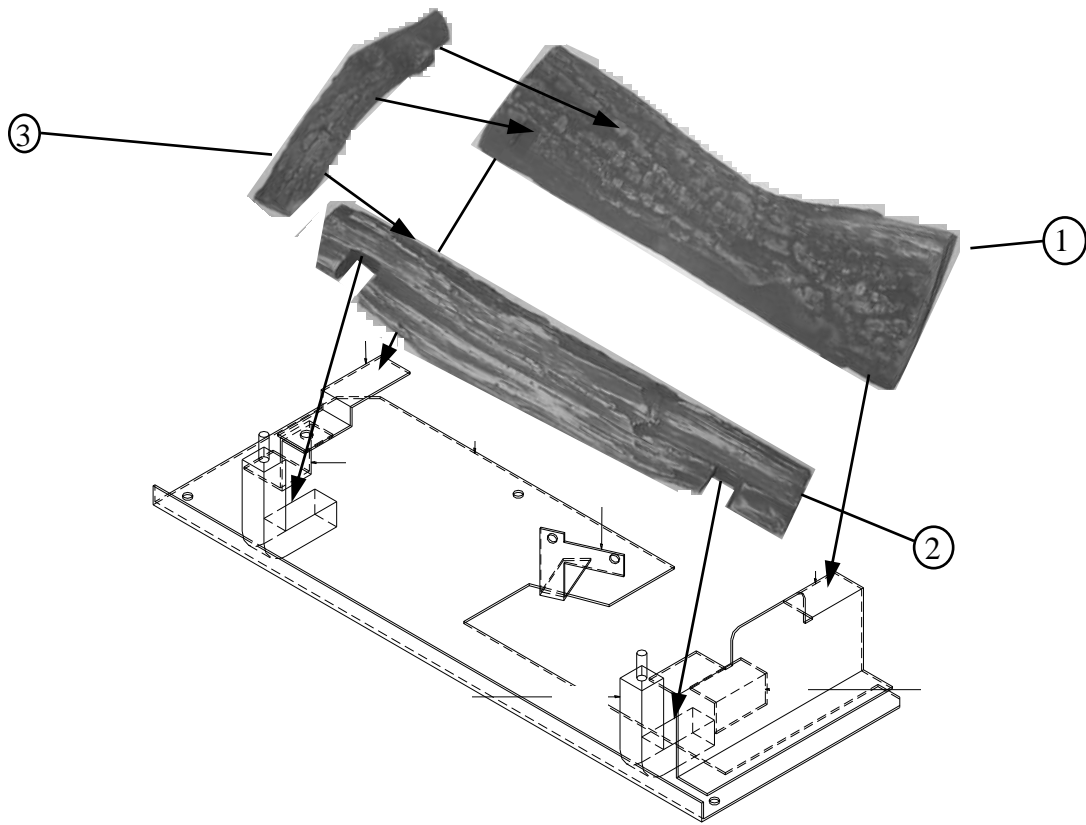

Figure 9
(1) REAR LOG    (2) FRONT LOG    (3) LEFT TOP LOG
**WARNING:** POSITIONING OF LOGS IS VERY CRITICAL (FIGURE 9).